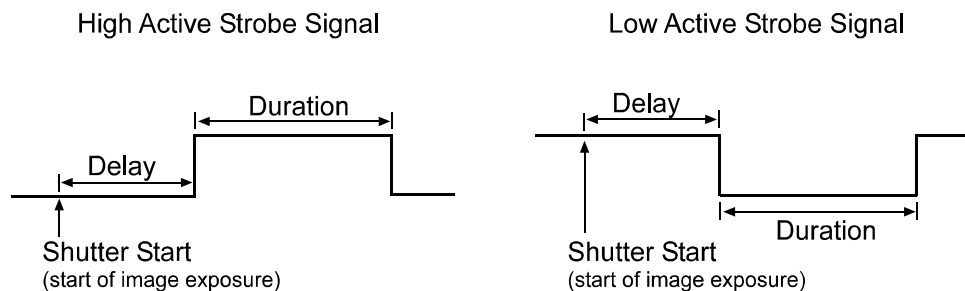

Figure 3-11: Strobe Signal
- Set the Delay Value field. The setting in this field will determine the time between the start of image exposure and when the strobe signal changes state as shown in Figure 3-11.
- Set the Duration Value field. The setting in this field will determine the duration of the strobe signal as shown in Figure 3-11.